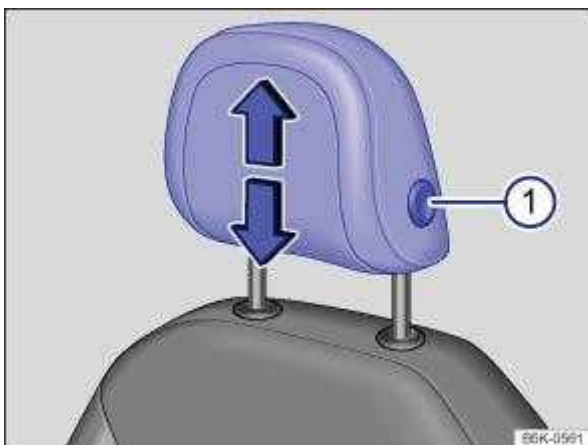
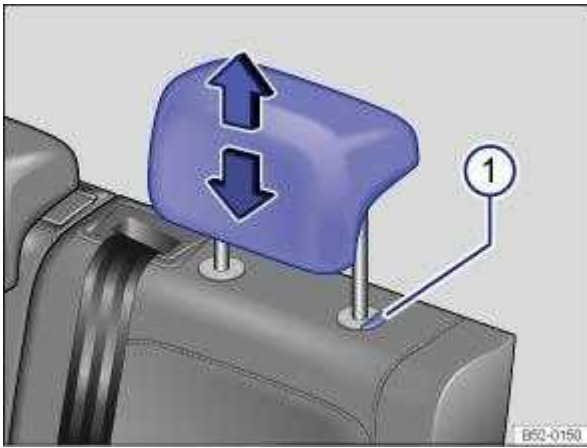

Fig. 72 Front head restraint: adjusting.
Fig. 73 Rear head restraint: adjusting.
Press the button ⇒ Fig. 72 ① or ⇒ Fig. 73 ① if necessary and slide the head restraint up or down in the direction of the arrow ⇒ .